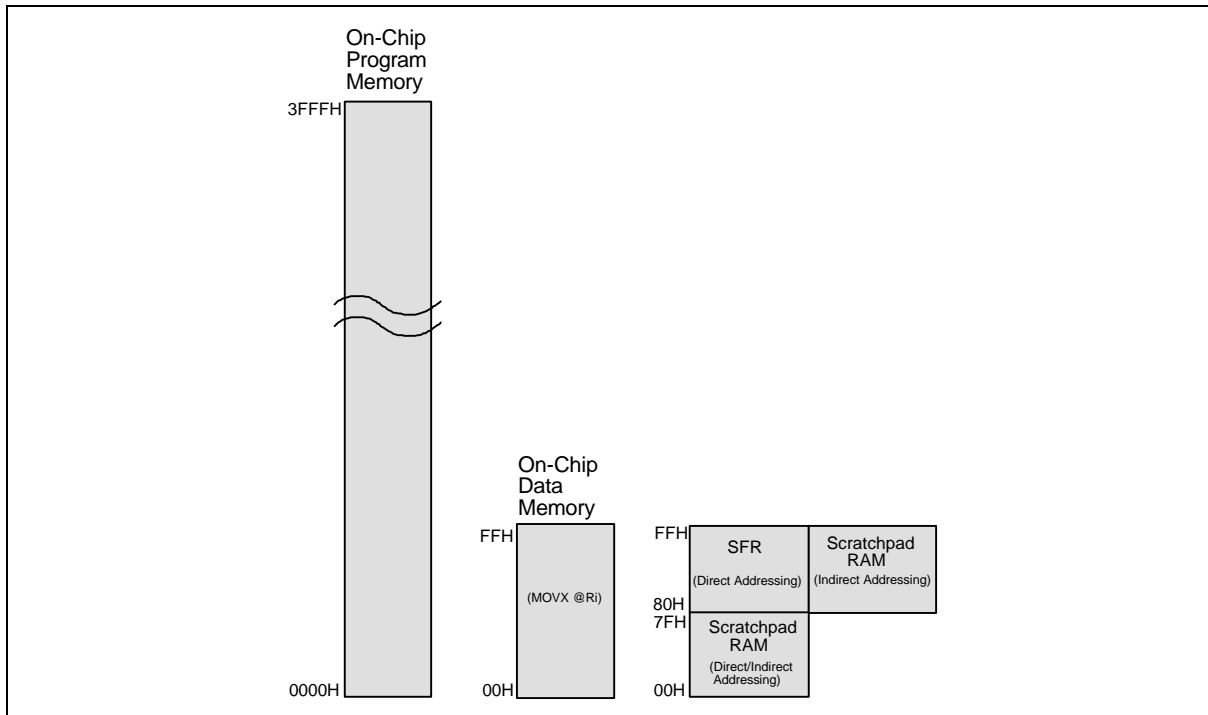

Figure1. Address Space
A.1 Address Space (cf. Figure 1)